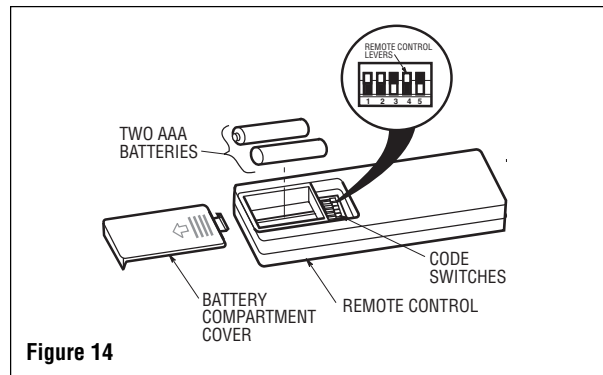

Figure 14
1. Remove the battery cover by pressing firmly below the arrow and sliding the cover off the control (Figure 14).
Your remote control has code switches which must be set in one of 32 possible code combinations (Figure 14). The five levers (numbered 1, 2, 3, 4, and 5) on the switches are factory-set in the ON (up) position. Change the switch settings as follows (Figure 16):